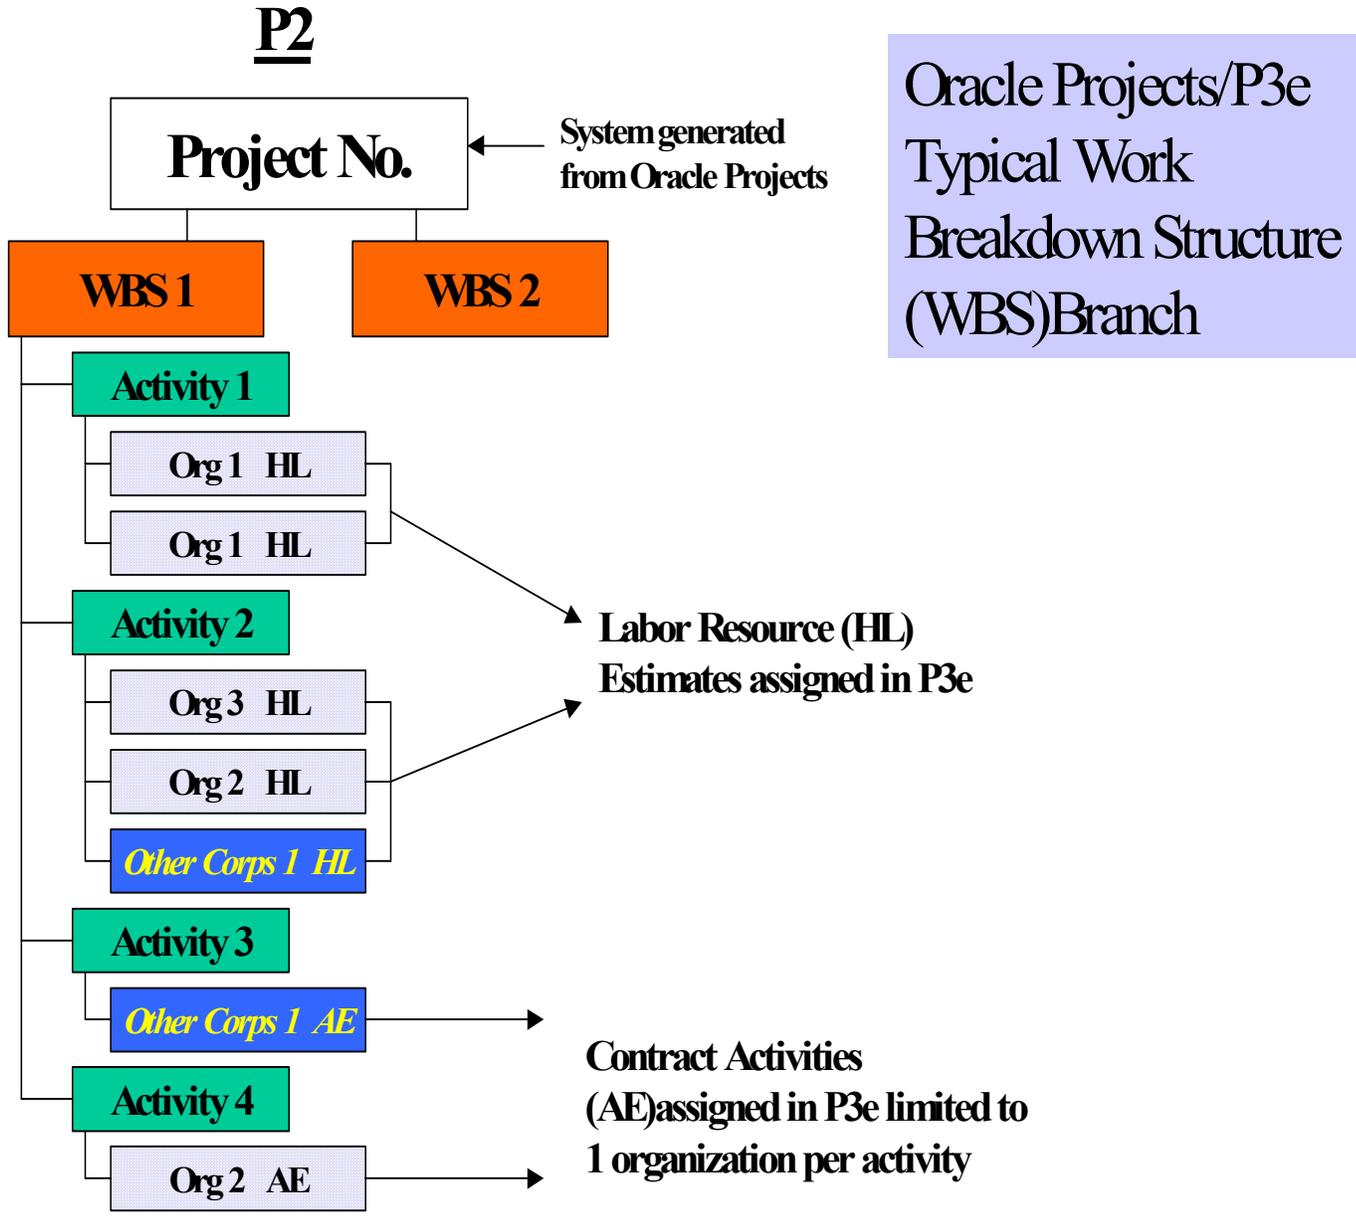

Figure 1. Project Management Structure
1. *PMP/PgMP Development – PROC2000[PROC2000]* and related procedures define how the PMP will be developed and ultimately approved for execution. Figure 1 displays a typical WBS structure for a sample project developed in Oracle Projects/P3e (P2) to be resourced in P3e and interfaced with CEFMS for the creation of work items and PRACs. The shaded blocks below each activity identify resource estimates for work performed in the home District. In a virtual project delivery